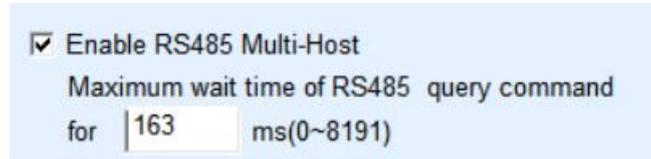
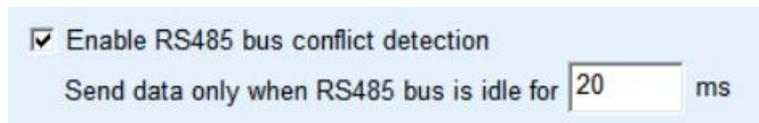

Figure 37 RS232 multi-host support
Figure 38 Free time of RS232 conflict prevention
1. Figure 38 shows the RS485 bus collision prevention time. Generally, you can set it to twice the value of Packet Interval in the lower right corner of the parameter configuration page, but the value cannot be less than 20.
2. Figure 37 shows the "RS485 command response timeout time", which is generally determined by the length of the command to and from the reply. If the send command is N bytes and the reply is M bytes, the recommended value is "packet
At this time, it should be noted that the two check marks "RS485 bus collision prevention time" as shown in Figure 38 and "RS485 command response timeout time" as shown in Figure 37 need to be removed. Otherwise, the preceding forwarding function cannot be implemented.